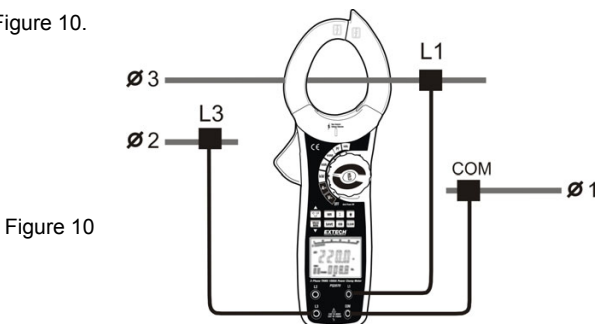

Figure 10
Connect the Meter as shown in Figure 10.
1. Insert the Red (L1) and Blue (L3) test leads into the **L1, L3** meter input terminals and connect these to 2 separate phases of the circuit under test as shown in Figure 10.
2. 3-phase - Connect the meter as shown in Fig. 7 (3P4W) or Fig. 10 (3P3W)
2. Connect the meter as shown in Fig. 7 (3P4W) or Fig. 10 (3P3W) for 3-phase connections.